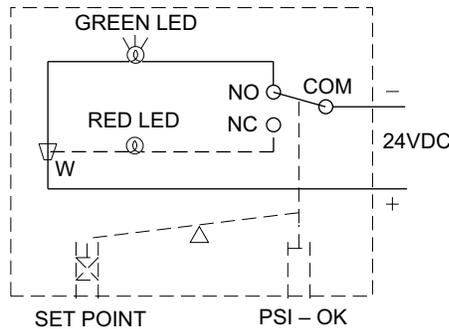
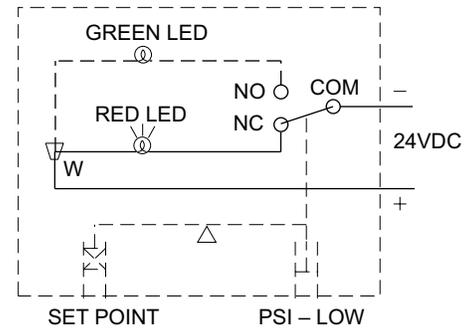

FIG. 1
FIG. 2
5. The 90.421.2 will now indicate Green if the system's pressure is at or above the minimum operating pressure (Fig. 1) or Red if below the minimum operating pressure (Fig. 2).